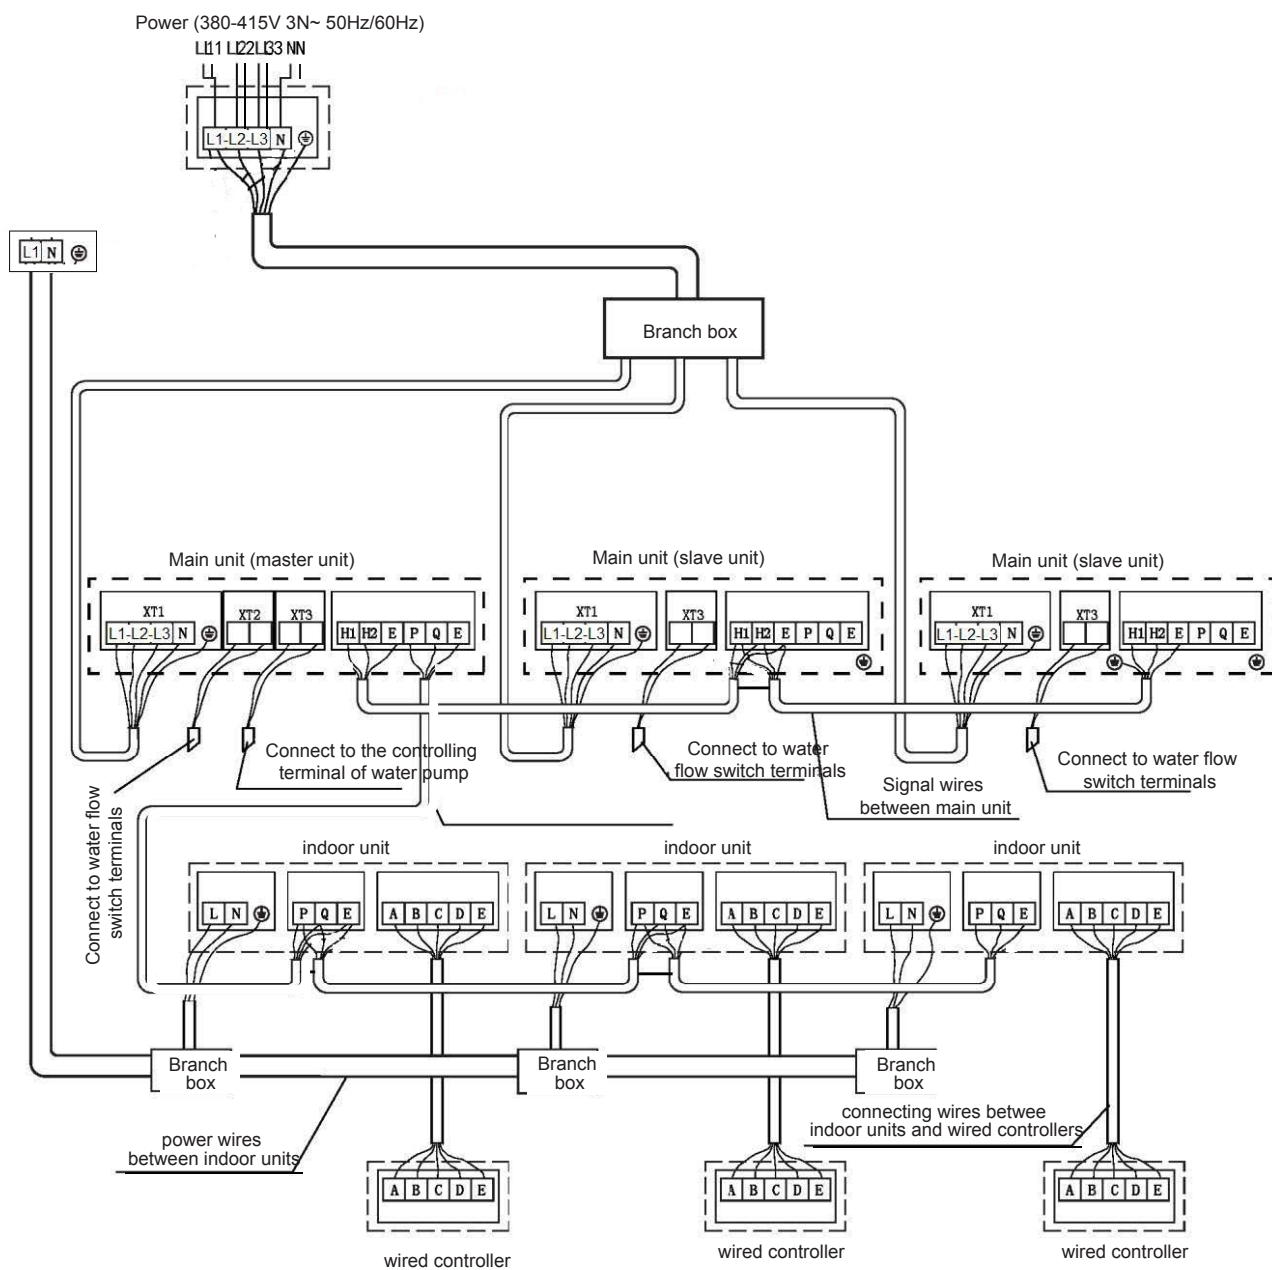

Fig.7-14
- Signal wire of indoor/main unit adopts 3-core shielded wire ($\geq 0.75\text{mm}^2$) which has polarity, please connect it correctly.(see Fig.7-14)